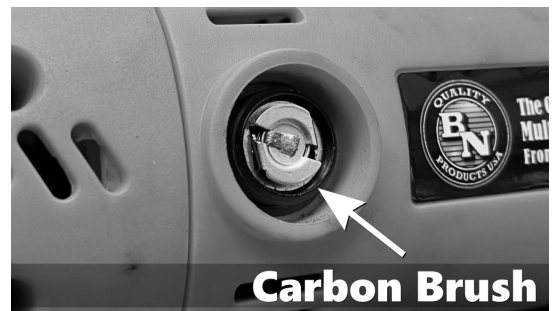

Figure 6
- Remove the brush from the socket; use a small screwdriver to gently pry the brass spring seat, if necessary (See Figure 6).